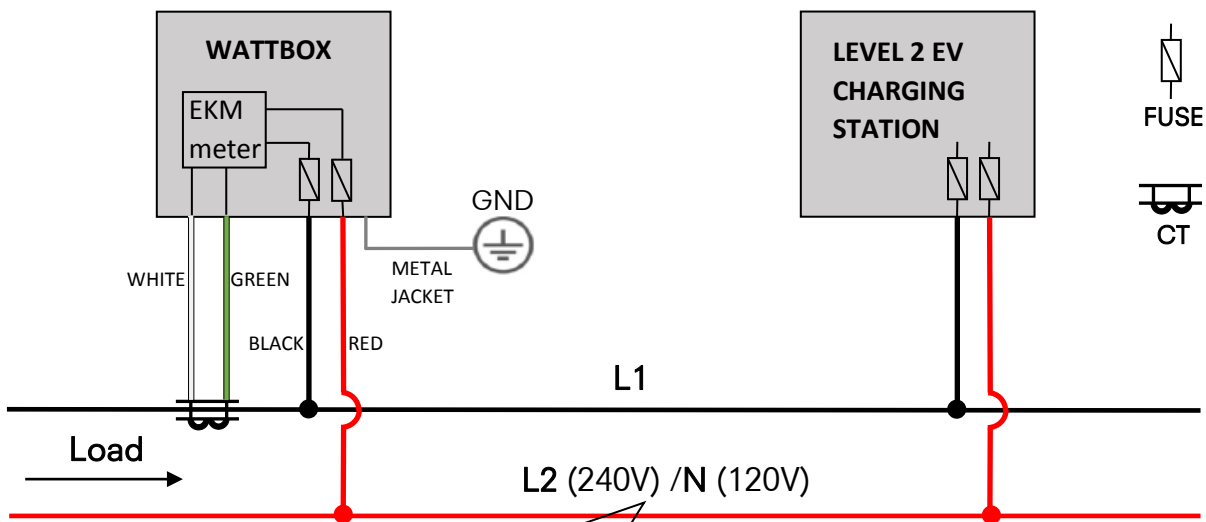

Fig. 1: WattBox wiring diagram
- 3) Connect the metal wire jacket to the ground for safe operation. It's connected to the WattBox enclosure (Fig. 1 & 3).
- 4) Fit current sensor (CT) around L1. Make sure the arrow is facing towards the load in the direction of flow (Fig. 1 & 2).
- 6) Connect the black wire to the breaker, lug or an appropriate line-tap device on L1 (Fig. 1 & 3).
- 7) Connect the red wire to the breaker, lug or an appropriate line-tap device on L2. If the vehicle is charged from a wall outlet, and 120V needs to be monitored instead of 240V, please connect the red wire to the neutral wire (Fig. 1 & 3).